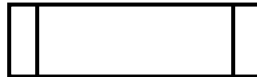
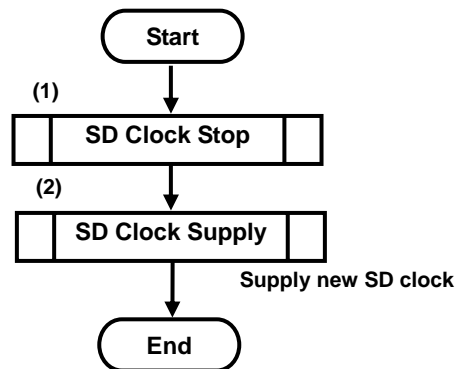

Figure 3-1 : Double Box Notation
Figure 3-5: SD Clock Change Sequence
This specification uses the double box like Figure 3-1, (the step (1) in Figure 3-5 and the step (5) in Figure 3-25), It means that the other flows, which already are shown, shall be performed. Therefore, the interrupt may be included in the other flows.
The sequence for changing SD Clock frequency is shown in Figure 3-5. When SD Clock is still off, step (1) is omitted. Please refer to Section 3.2.2 for details regarding step (1) and Section 3.2.1 for step (2).